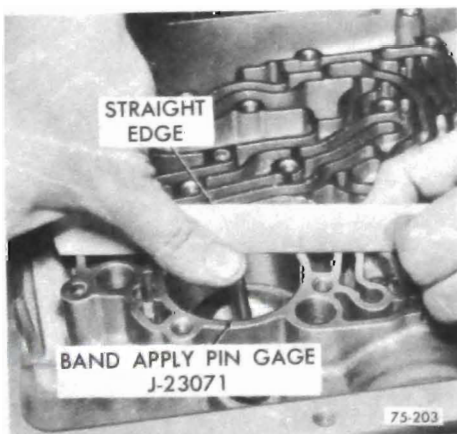

Figure 75-86
a. Using band apply selection pin tool J-23071, and straight edge, apply firm downward pressure on selection pin. See Figure 75-86.